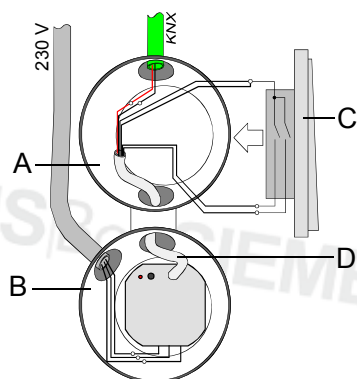

Figure 2
It is recommended that the actuator is installed in two flush sockets connected to one another (cf. fig. 2). One socket (A) can accommodate, e.g., a series switch (C) as well as the bus and extension connection. The other socket (B) accommodates the actuator and the 230 V terminals. The 6-pole connection lead (D) is guided through the socket connection.